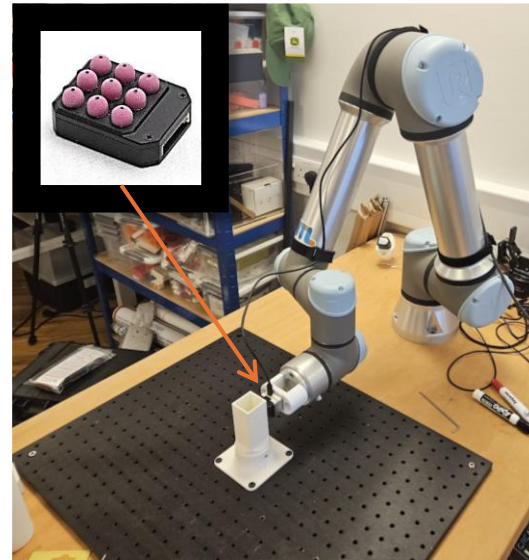
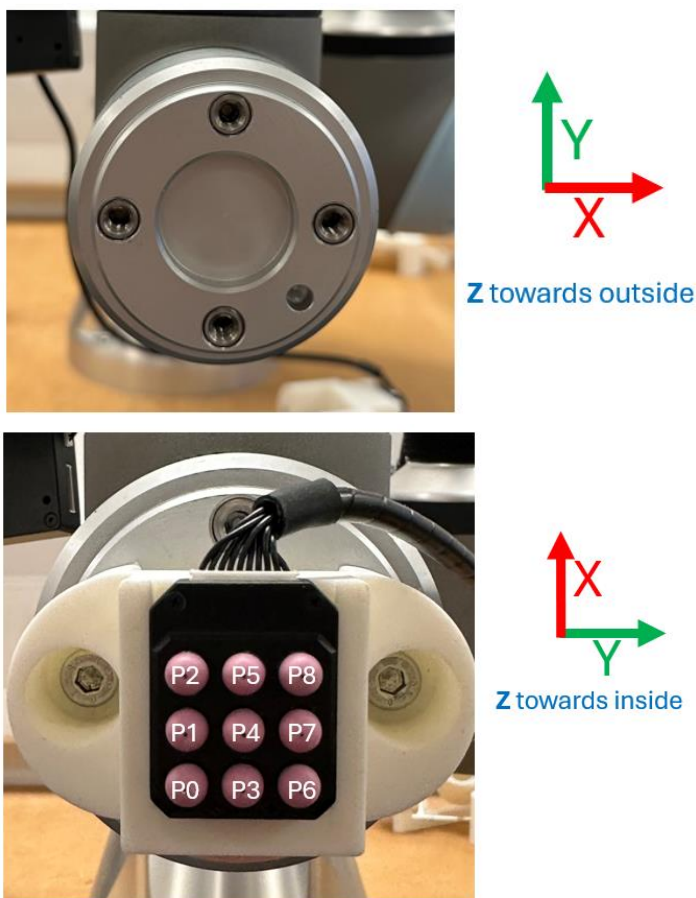

Figure 1: The experiment setup consists of a UR5e robot arm equipped with a Contactile sensor (inset). The test object is fixed in the workspace.
Figure 3: Force axis conventions
For the experiments, a UR5e robot was equipped with a 'Contactile' tactile sensor (Figure 1). The robot also includes a 6D force/torque sensor in the wrist. The Contactile sensor consists of 9 rubber papillae, each of which uses internal optical techniques to measure 3D vectors of force and displacement
3. The Contactile tactile sensor is composed of 9 individual domed sensors called papillae (shown in Figure 1 and Figure 3). Right now, we're just going to look at the data from the middle papillae (P4).